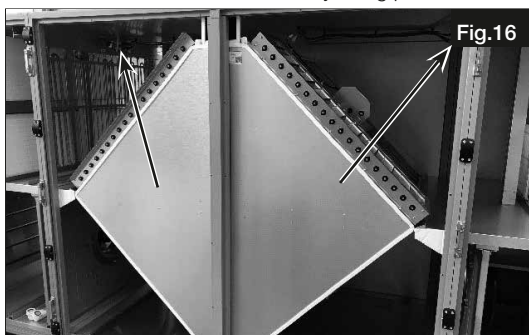

Fig.16
2. Connect the modules electrically using pre-assembled connector (see Fig.16).